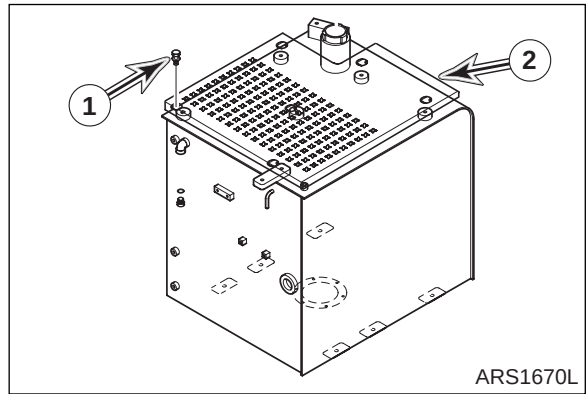

Figure 9
14. Remove six bolts (1, Figure 9) and cover (2) from fuel tank.